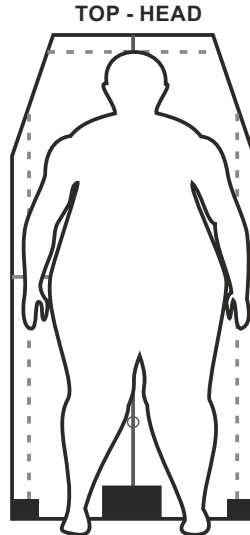

FIGURE 2
The Patient should be placed and housed within these 3 Lines. The Head should be below the Interrupted Horizontal Line. For Very Tall Patients, it is safe for the Feet to hang over the Edge of the Bottom End of the Mattress (**Figure 2**). In **Figure 2**, the Patient's Head is just touching the Interrupted Line and the Arms are over the Lines.
- Roll the Patient Back so that the Patient is placed in the Centre and within the confines of the Interrupted Lines (as in Fig 2 Page 5).